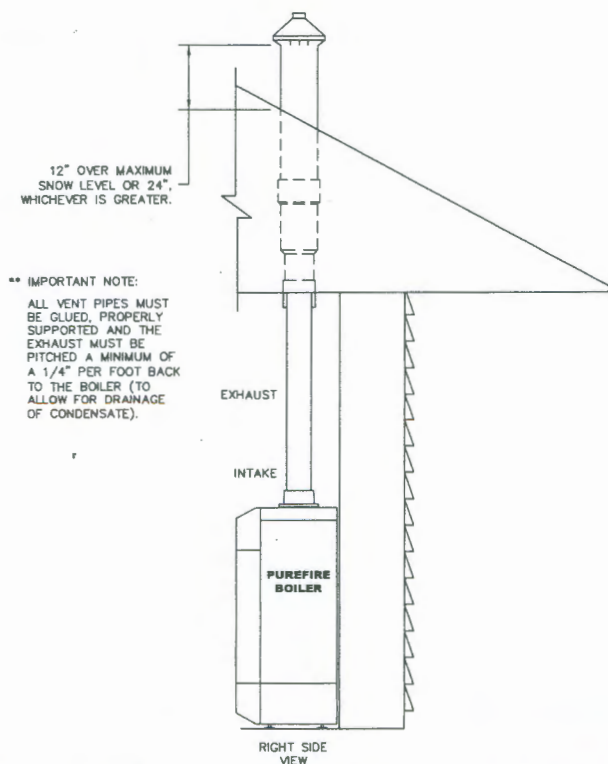

Figure 3.8: Concentric PVC Vertical Vent Installation
d. Figure 3.8 shows an approved vertical vent configuration using the optional concentric vent termination kit.